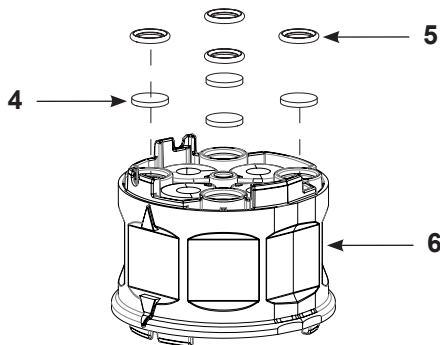

Figure 23 Assemble the Pinch Valve Housing
**NOTE:** Any time the pump is disassembled, the Y block gasket (item 10 in Figure 23) must be replaced.
2. See Figure 23. Assemble filter discs (4) and O-rings (5) into pinch valve chamber block (6).